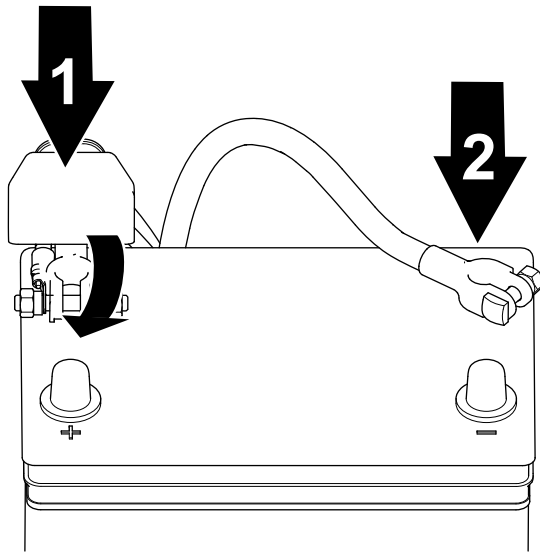

Figure 90
1. Connect the positive cable to the battery and tighten the battery-clamp nut (Figure 90).
2. Connect the negative cable to the battery and tighten the battery-clamp nut (Figure 90).